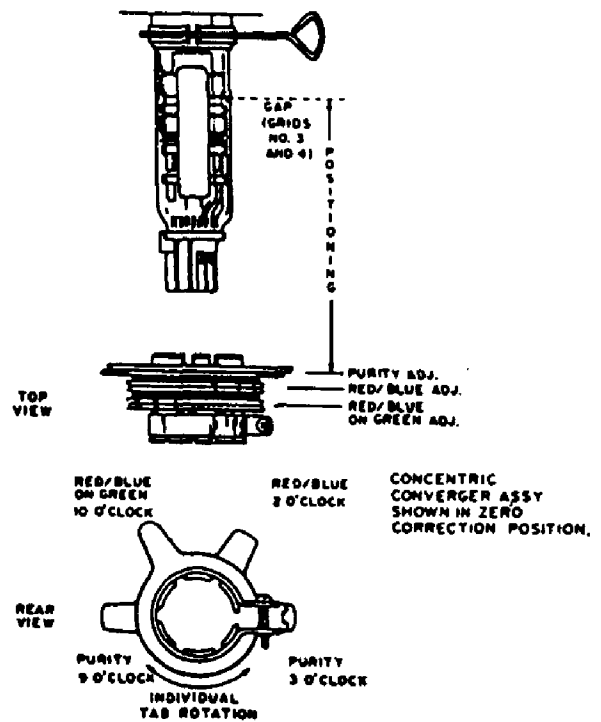

Fig. 3
2. On picture tubes with a 22.5 mm neck diameter, set the ring assembly on the CRT neck with the center line of the purity ring-pair over the gap between grids No5. and 6. See Fig. 1 (For picture tubes with a 29 mm neck, use the gap between grids No3 and 4 Fig.3)